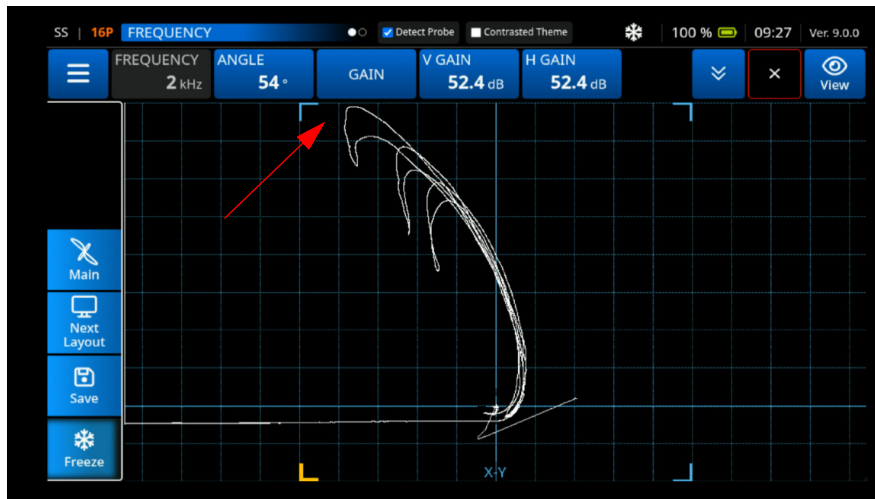

Figure 3-59 Adjust the Gain Setting
8. Using the **Gain** setting and the knob, adjust the 30% corrosion spot signal at **100% FSH** (See Figure 3-59 on page 87).